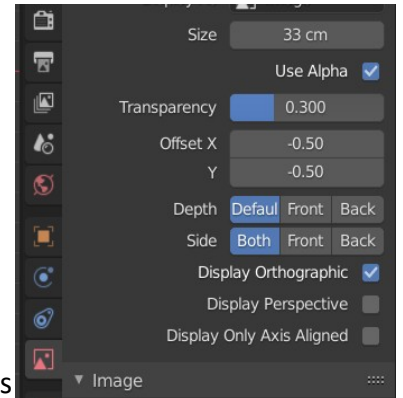

Figure 17
17) Hit on **Select Box** (Tools panel) and left click on the parallel drawing to select it. Take a look at the **Image properties** panel from the Properties Editor. Check the **Opacity** option and adjust it to 0.300 (or to a value upon your preference) to have both images visible (**Fig. 17**).